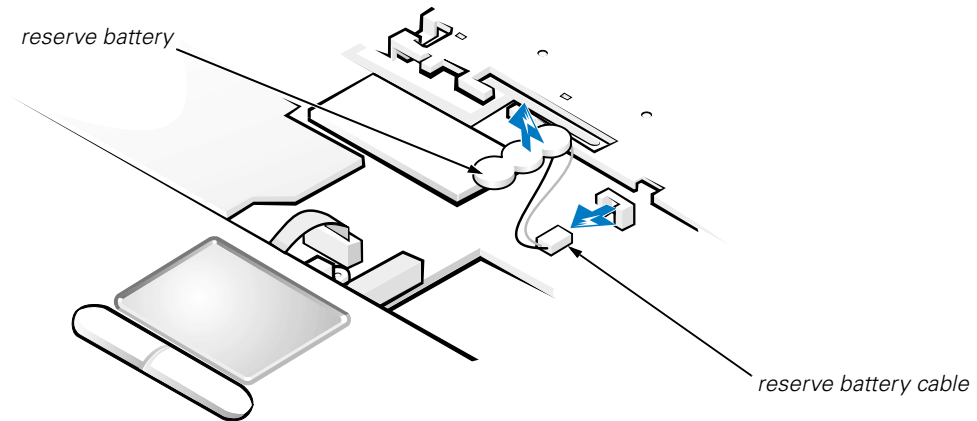

Figure 18. Reserve Battery Removal
3. Peel the reserve battery away from the foam pad on the system board (see Figure 18).